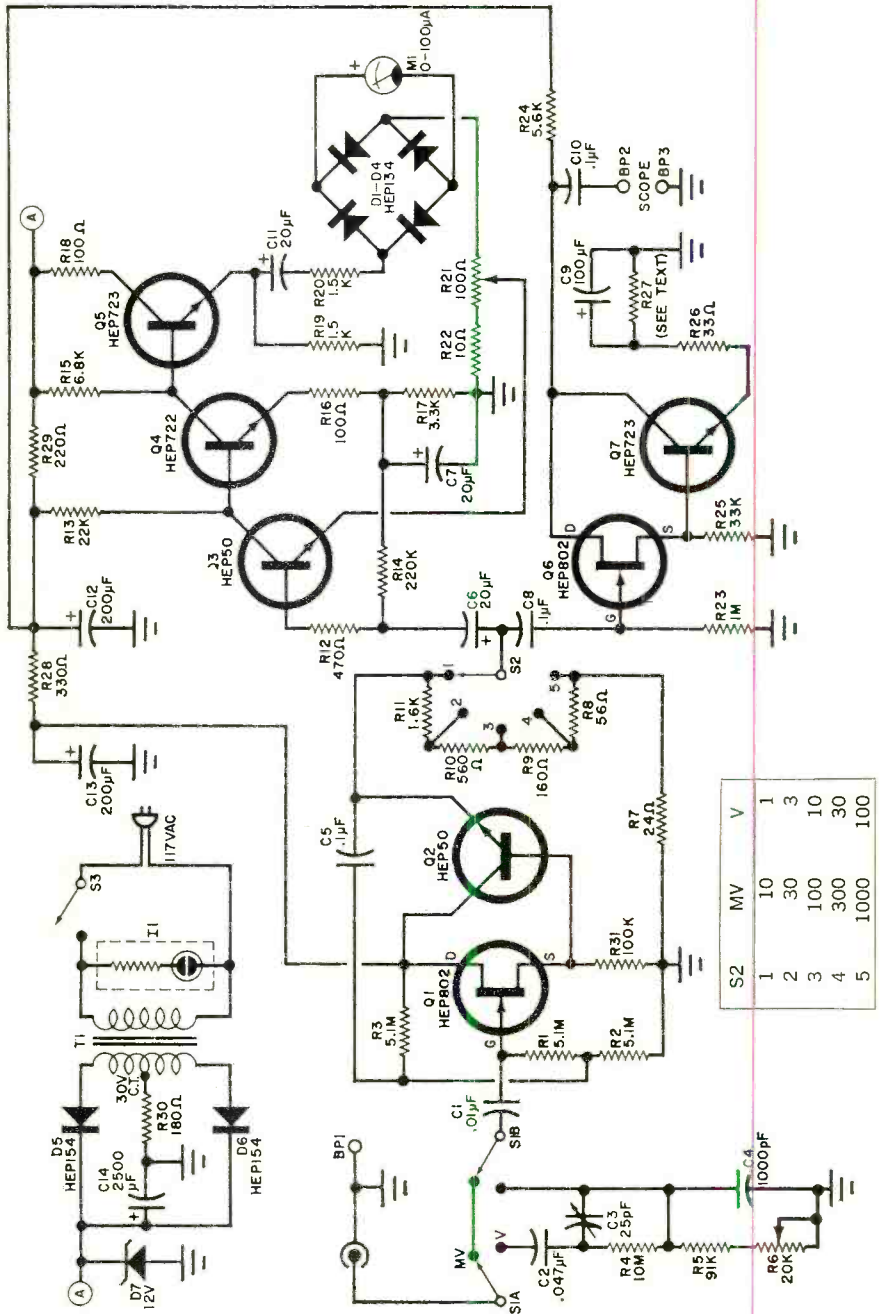

Fig. 1. Function switch S1 allows user to measure 0-1000 mV or 0-1000 volts rms in alternate positions. Range selection is accomplished with switch S2.
connect the spiker to the generator and attach a short antenna to the spiker output. Set the front panel switch to 1 MHz (1  $\mu$ S). This will produce a train of "birdies," 1 MHz apart. With the receiver tuned to WWV on 5, 10, or 15 MHz, the crystal oscillator in the generator can be trimmed to the exact frequency. Use other dial positions and the calibrator will generate the frequencies shown in Fig. 1. Suitable selection of frequencies will permit a very accurate determination of the frequency of an incoming signal.
The combination of the unit shown in Fig. 1 is 1/5-4. This means that, to open the lock, switches 1 and 5 must be pressed simultaneously, followed immediately by the pressing of switch 4. Most people find that it is quite easy to press the two initial switches at the same time with their index and middle fingers. Since these two switches are wired in series, they must be closed at the same time for a fraction of a second in order to enter the first part of the combination. Then when the 4 switch is pressed, the solenoid on the lock is energized.
**Construction.** Using the circuit shown in Fig. 1, the prototype was built in a  $2\frac{1}{8}'' \times 3\frac{1}{4}'' \times 1\frac{1}{8}''$  molded plastic box. This makes the unit as small as possible for use in a limited space. However, a larger enclosure can be used. The circuit can be located some distance away from the key panel and the solenoid latching mechanism. The components were mounted on perf-
Fig. 1. If desired, circuit can be extended by adding more switches in parallel with S2, S3, and S6; in series with S1 and S5; or in series with S4. To change combinations, rearrange the switch positions on door or plate.
This is the principle behind the "High-Input-Resistance AC Millivoltmeter" described in the following pages. The schematic diagram of the mV Meter is shown in Fig. 1. It has a 100-megohm input resistance for minimum loading effect. It is capable of measuring ac voltages from as low as 0.2 mV to as high as 1000 mV (1 volt) rms. In the mV range, the input resistance of the mV Meter is 100 megohms, while in the V range, input resistance is a standard 10 megohms.